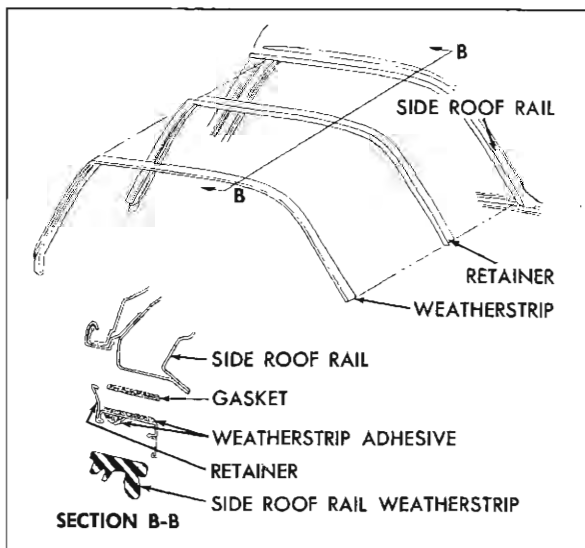

Fig. 3-49 Side Roof Rail Weatherstrip "47" Style
2. Apply a continuous bead (approximately  $\frac{3}{16}$ " diameter) of weatherstrip adhesive along entire outboard surface of side roof rail weatherstrip retainer (See Section "B-B" in Figure 3-49 for 47 styles and 3-50 for 39 and 57 styles.)